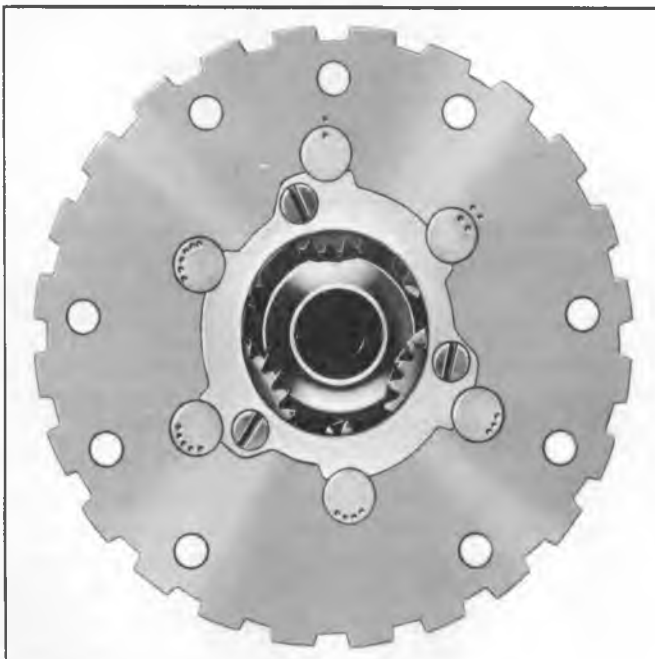

Fig. 25PG-Suggested Pinion Shaft Markings
2. Using prick punches or other similar means, mark each pinion shaft and also the planet carrier assembly (fig. 25PG), so that reassembling, each pinion shaft will be reinstalled in the same location from which it was removed.